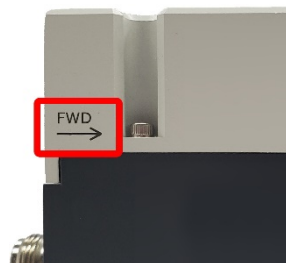

Figure 3: Power flow direction symbol.
2. Before connecting your GEMINI RF Power Meter to any RF power source, identify the INPUT and OUTPUT ports. The INPUT port and power flow direction are designated by the **FWD** → symbol on the instrument housing (see *Figure 3*).